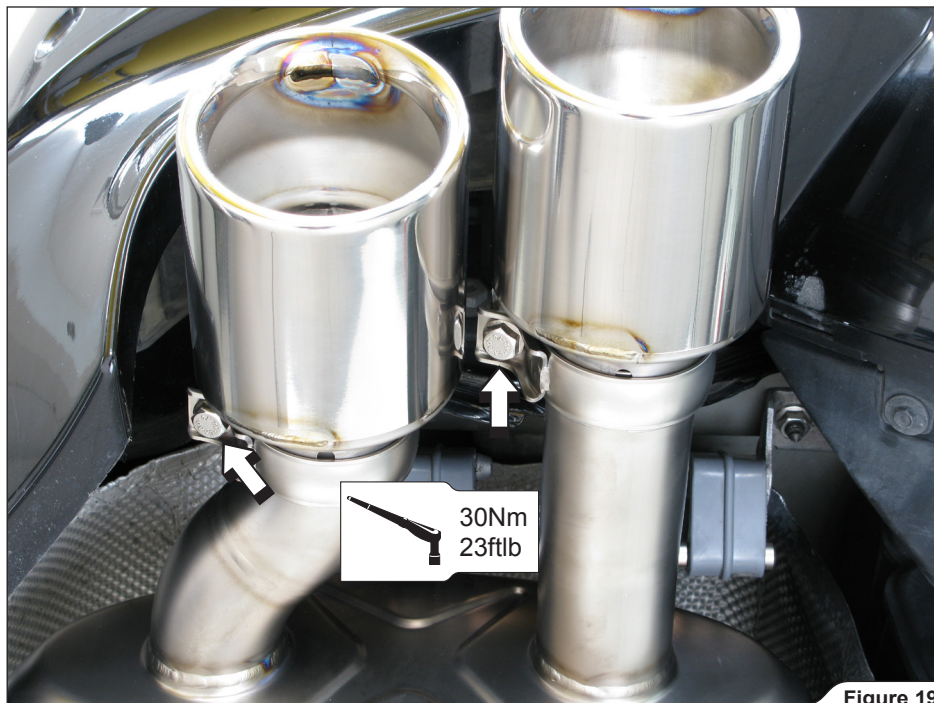

Figure 19
11. **For Slip-On and Evolution:** tighten the Tail Pipe clamps to a specified torque (**Figure 19**).